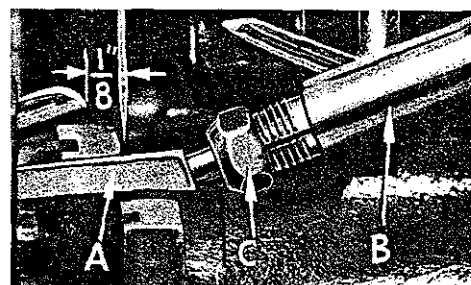

Fig. 5
At this point, insert lower looper (A, Fig. 5) into bar (B). With lower looper at left end of its stroke, set looper point $1/8$ inch from center of needle (Fig. 5), using looper gauge No. 21225- $1/8$, on Styles 39500 FS, FT, FU, GT and JP. On Styles 39500 GD and GL, with lower looper at left end of its stroke, set looper point $1/16$ inch from center of left needle, using looper gauge No. 21225- $1/16$. Now assemble differential (front) feed dog.
Now finish lower looper adjustment. As lower looper moves to the right, its point should be set into the needle scarf (A, Fig. 7) until the needle springs forward from rear guard surface another .002-.004 inch. Tighten nut (C, Fig. 5) securely.